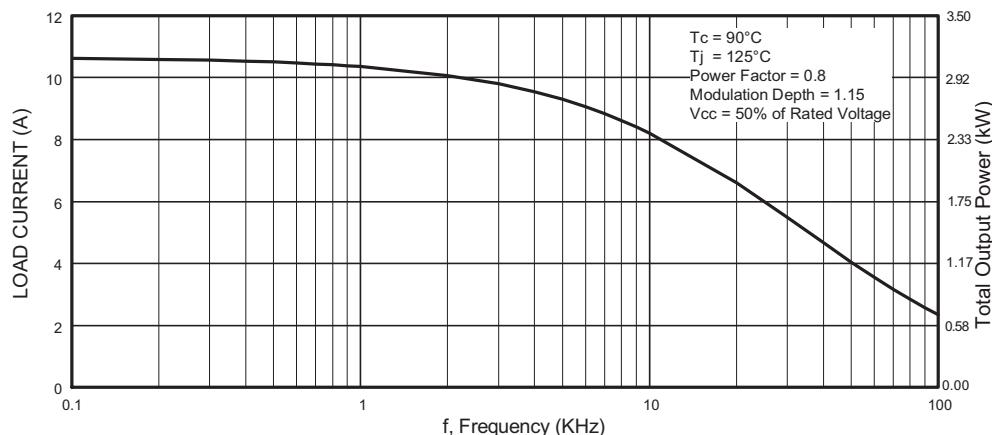

Fig. 1 - Typical Load Current vs. Frequency
Modulation depth (see fig. 1)	115 %
- Short circuit rated ultrafast: Optimized for high speed over 5.0 kHz (see fig. 1 for current vs. frequency curve), and short circuit rated to 10 µs at 125 °C, V_{GE} = 15 V